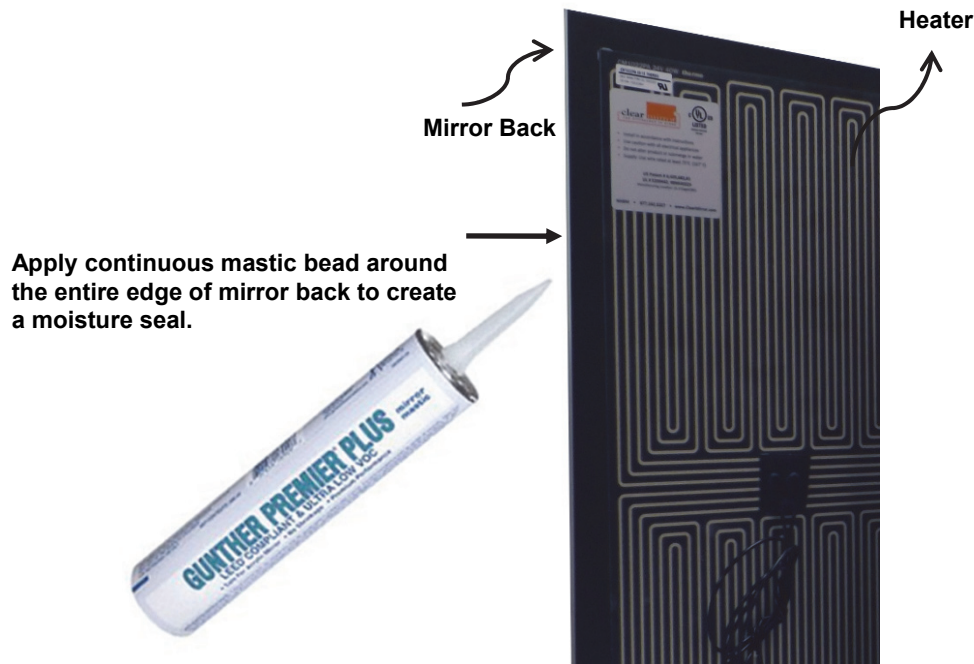

Figure 2. Applying Mirror Mastic.
5. Apply a **continuous bead around the entire edge** perimeter to protect mirror (See Figure 2).